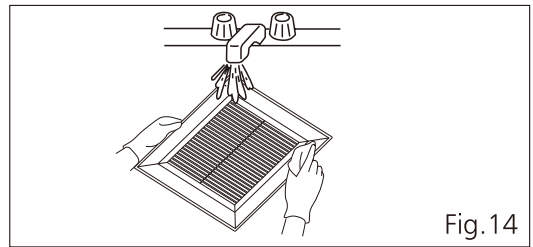

Fig.14
2.Wash and clean grille. (Don't put into hot water. Use non-abrasive kitchen detergent. Wipe dry with clean cloth.) (Fig.14)